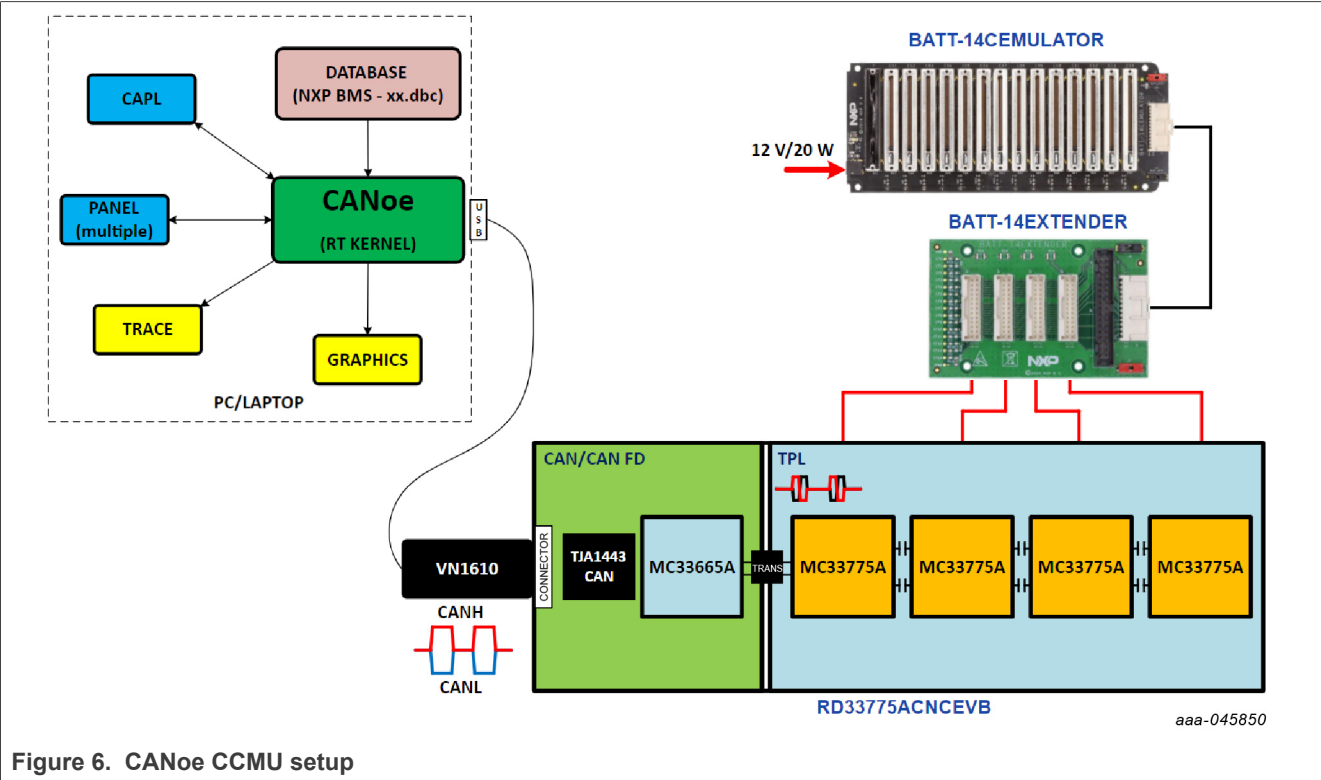

Figure 6. CANoe CCMU setup
- Figure 6 shows the block diagram of setup for MC33665A_CCMU_Demo with CCMU board. RD33775ACNCEVB also known as CCMU can be interfaced from laptop with Vector CAN hardware (such as VN1610).